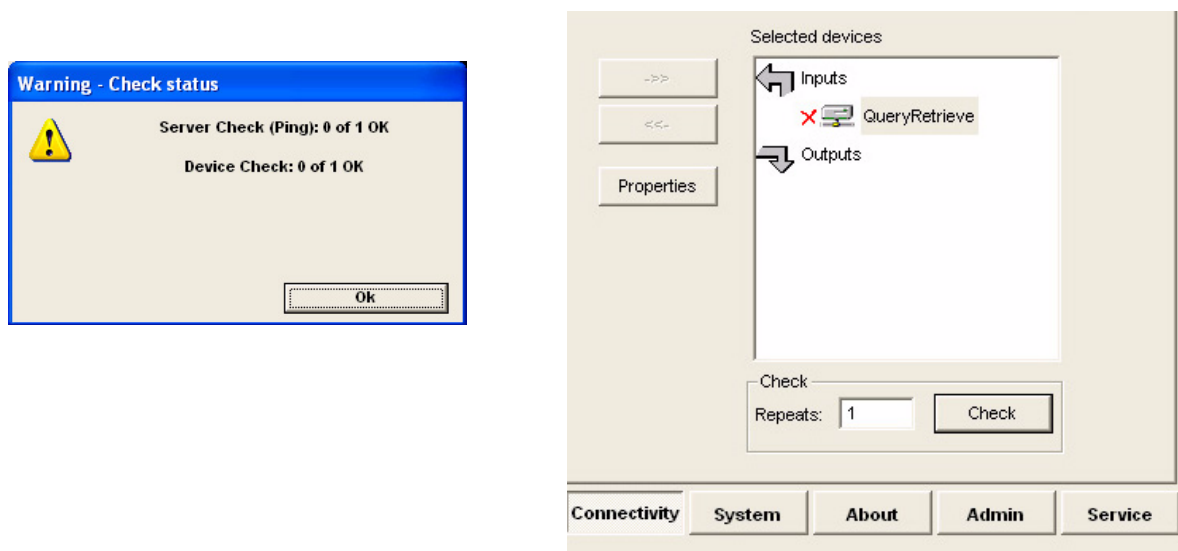

Figure 3-135 Test (Check) Failed
- If the test fails, a pop-up warning is displayed, see left illustration in Figure 3-135.